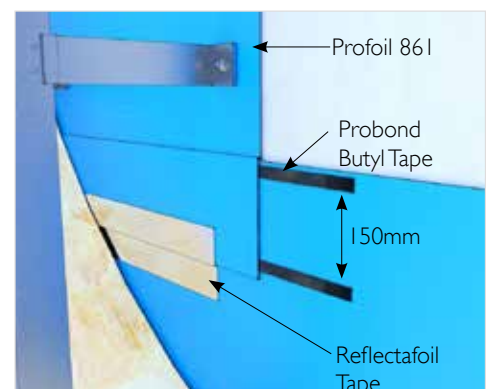

Fig. 4: Profoil detail: Overlaps are sealed with two runs of Probond Butyl Tape and Reflectafoil Tape over the edges.
8. Seal all overlaps and perimeter edges with a single run of Reflectafoil Tape. A double run of Probond Butyl Tape between overlaps is still required (Fig.4).